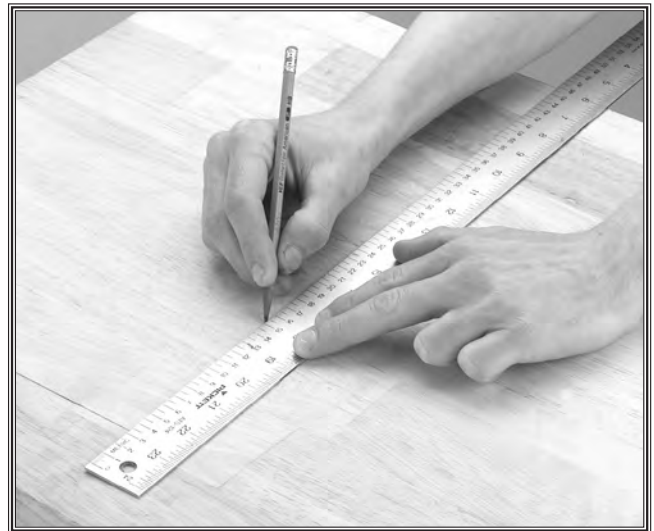

Figure 9. Layout penciled in.
1. Plan the placement of the mortiser. Take measurements of the base and layout a pencil drawing for the best location on the work bench. See Figure 9.